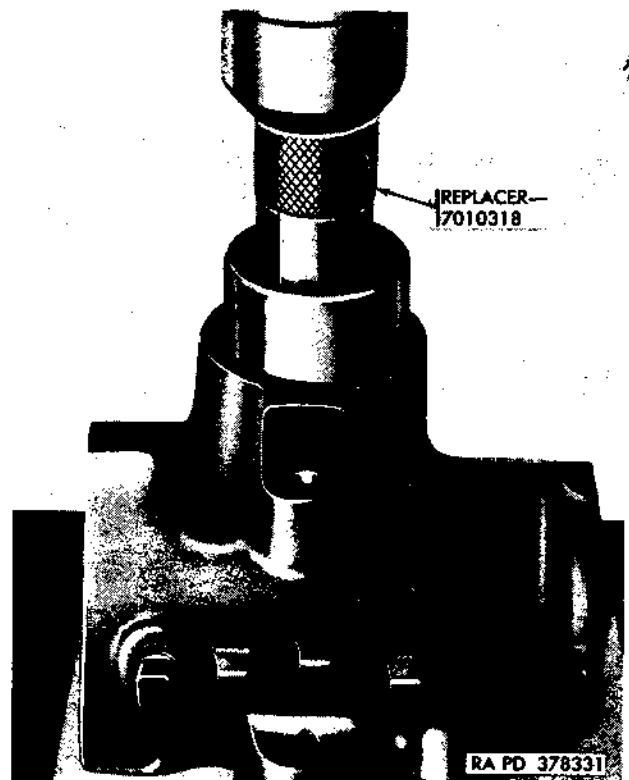
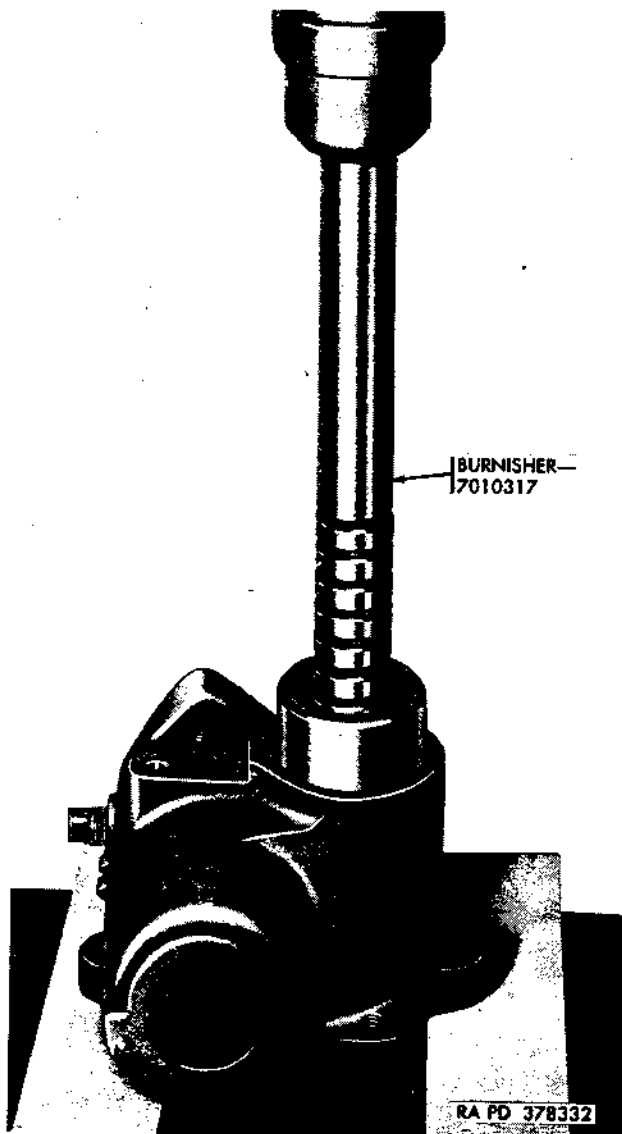

Figure 9. Installing outer lever shaft bushing.
Figure 10. Burnishing lever shaft bushings.
a. *Install Lever Shaft Bushings.* If the lever shaft bushings (G) were removed (par. 17), position one new bushing in the bore inside the housing and press in with replacer 7010318 (fig. 8). Turn housing over and press in second bushing with replacer 7010318 (fig. 9). Drill the oil hole in the outer bushing using a 0.190 drill. After installing both bushings, burnish the bushings to the dimensions specified in paragraph 30, using burnisher 7010317 (fig. 10). Install new oil seal (H) in housing.
b. *Install Plug.* If expansion plug was removed (par. 17), insert new plug (E) in lower end of housing and drive into place.